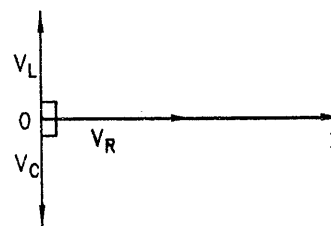

FIG. 2.54 : PHASOR OF VOLTAGE REPRESENTATION ACROSS EACH ELEMENT
- The phasor diagram is shown in Fig. 2.54.
- The current (I) is taken as a reference phasor.
(1) V_R is in phase with I .
(2) V_L leads I by 90°
(3) V_C lags I by 90°